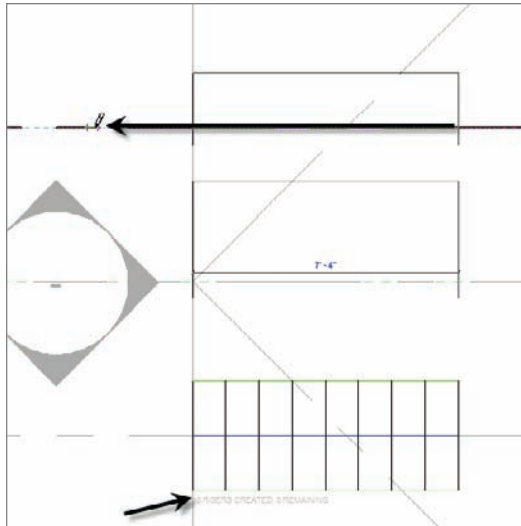

FIGURE 10.5 Make sure your cursor is way past the end of the stairs.
13. Move your cursor to the left all the way past the floor landing. Revit reports that you have 18 created, 0 remaining (see Figure 10.5).